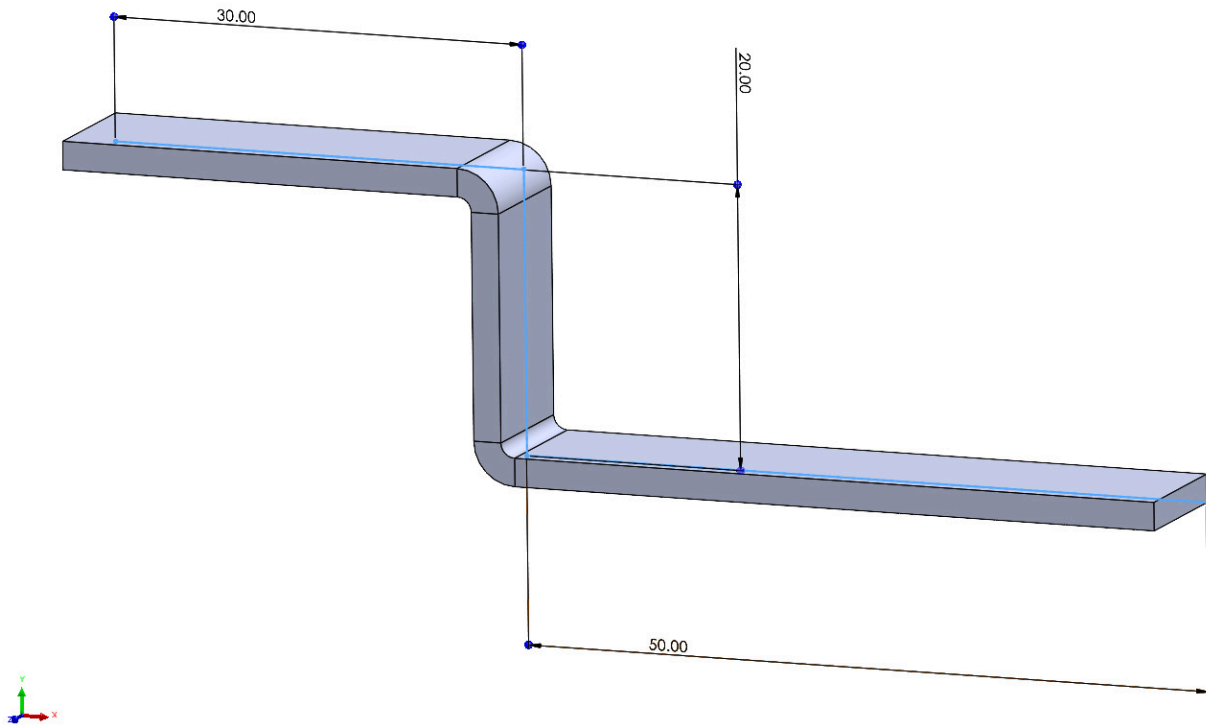

Figure 1.22: Single Open Contour Base Flange
4. Press **OK** to create a **Base Flange** (*Figure 1.22*). It can be seen that although the underlying sketch had sharp corners, the actual **Base Flange** feature has automatically been created with the bent corners using the **Bend Radius** that was specified in the **Sheet Metal** properties: